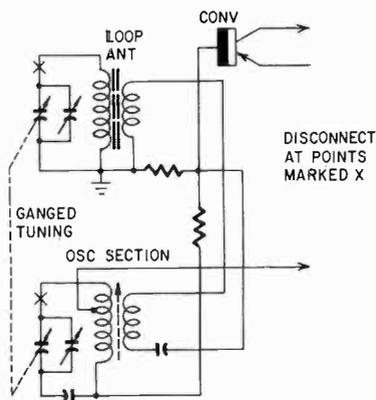

Fig. C-4. Check scraping capacitor plates by disconnecting leads at points marked X and shunting the capacitor with an ohmmeter.
2. Clip one lead of an ohmmeter to the stator and the other lead to the rotor of a section. Turn the capacitor the full arc until the meter shows which section is shorting. Often one or more portions of a section may be shorting. See Fig. C-4.
A single transistor, as shown in Fig. C-4, can perform the dual functions of mixer and local oscillator and is then known (just as in the case of a vacuum tube) as a converter. Unlike vacuum tube circuits, however, transistor local oscillator voltage cannot be measured by checking the dc drop across a resistor. An rf vtm must be used to determine the amount of local oscillator voltage developed. (In either vacuum tube or transistor receivers, failure to develop local oscillator voltage means no sound out of the speaker.) If an rf vtm is not available, set the dial of the receiver to a strong station and turn up the volume control. Loosely couple